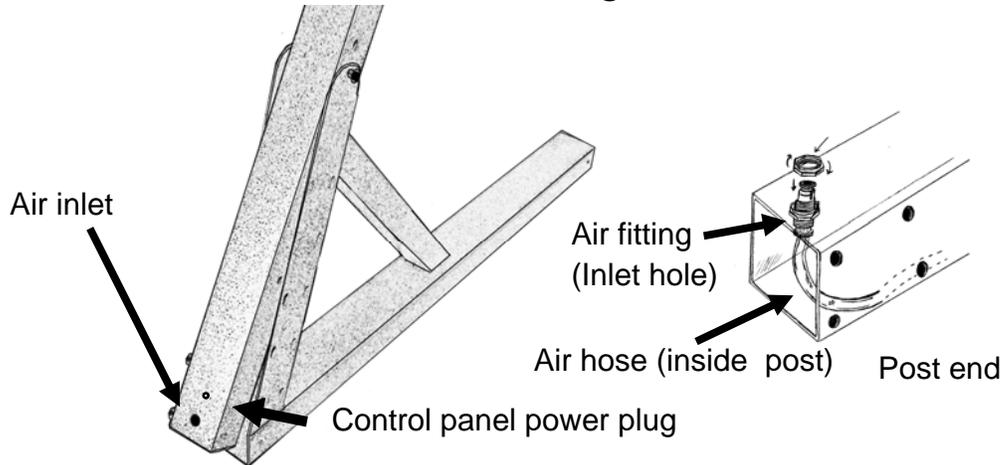

Fig. 3
2. Remove one nut from the air fitting, then insert black hose and fitting through air inlet hole in upright top hole. **See Fig. 3**
Note: Black hose not shown in Fig. 3